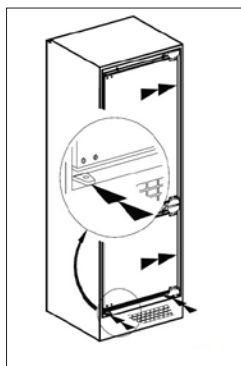

Fig. 8
10. Align the front legs of the refrigerator with the front edge of the cabinet (Fig. 8).
12. Open the refrigerator door and screw the compensating cover to the cabinet (Fig. 8).